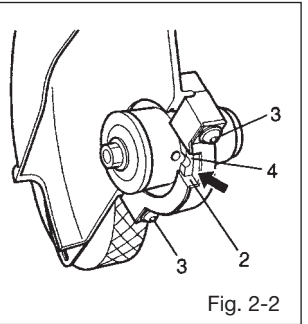

Fig. 2-2
- 1) Install blade guard (1) on gearcase (4) temporarily by clamping with guard brackets (2) and screws (3). Then tighten as needed.
- 2) Line up the slot of guard bracket (2) with the same of gearcase (4), then tighten screws (3) securely. (Fig.2-2)